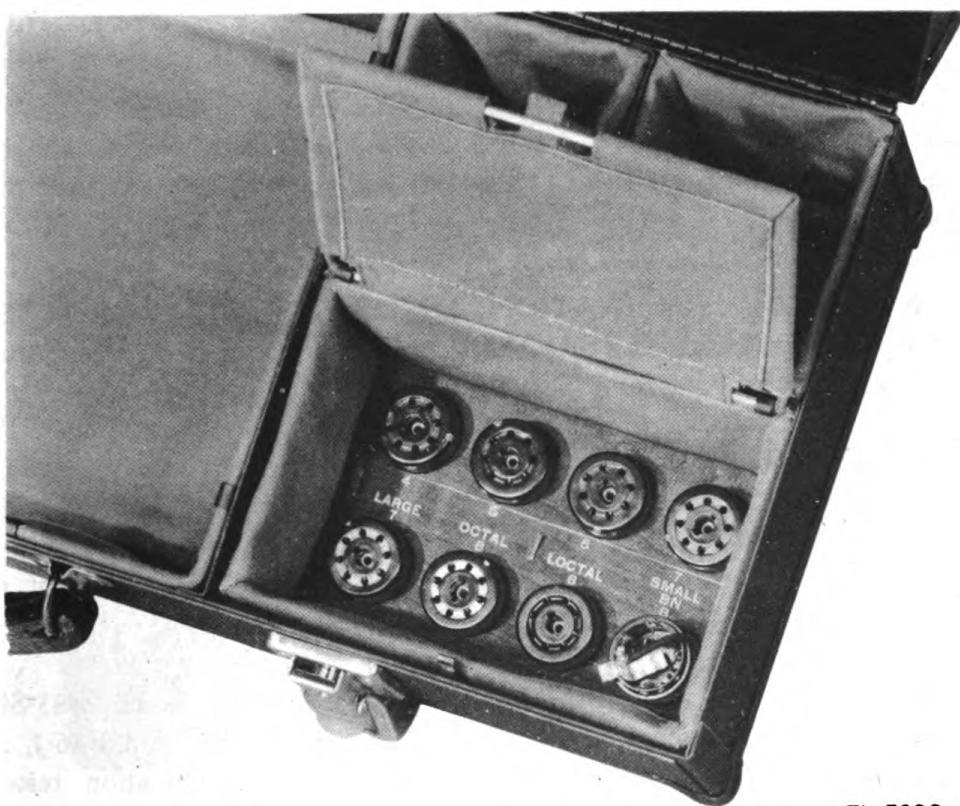

FIG. 3. TEST SET I-56-(*), ADAPTER PLUGS
c. The seven adapter plugs, which are furnished for free-point testing, fit the following sockets: 4-prong, 5-prong, 6-prong, small 7-prong, large 7-prong, 8-prong octal and 8-prong loctal sockets. Adapter plugs for Bantam, Jr., miniature and midget tubes are not furnished. The adapter plugs are kept in the bottom of the test lead compartment as shown in fig. 3.